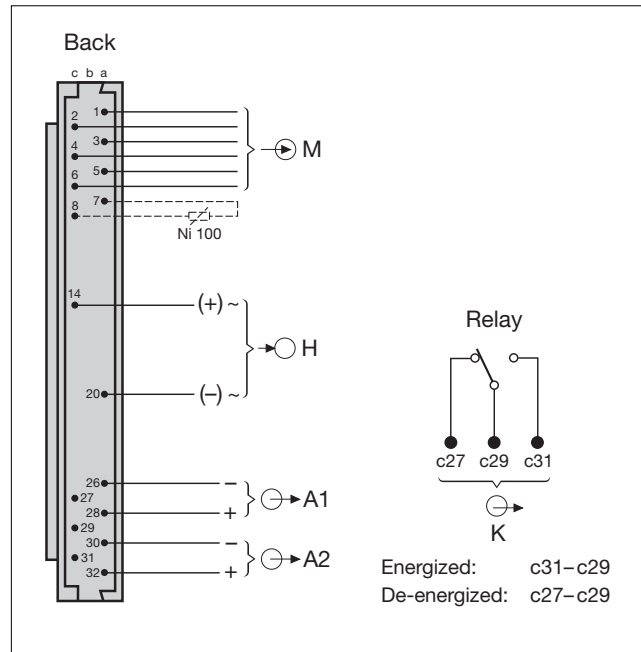

Fig. 6. Plug arrangement seen from the rear of SIRAX V 644.
The transmitter SIRAX V 644 is plugged onto a backplane BP 902. A 96 pin connector (Model C, DIN 41 612) establishes the electrical connections between the transmitter and the backplane. The pin connections can be seen from Fig. 6. **Please refer to our backplane instructions for the backplane wiring.**
- ... the data required to carry out the prescribed measurement must correspond to those marked on the nameplate of SIRAX V 644 (→ measuring input M, → measuring outputs A1 and A2, → power supply H and → output contact K, see Fig. 6)!
Legend for Fig. 6
Connect the output leads for output A1 to pins a26 (-) and a28 (+) and for output A2 (field indicator) to pins a30 (-) and a32 (+) as shown in Fig. 6.
Connect the power supply to pins a20 (\approx) and c14 (\pm) as shown in Fig. 6.
Connect the output contact signalling leads acc. to Fig. 6 resp. Table 6.